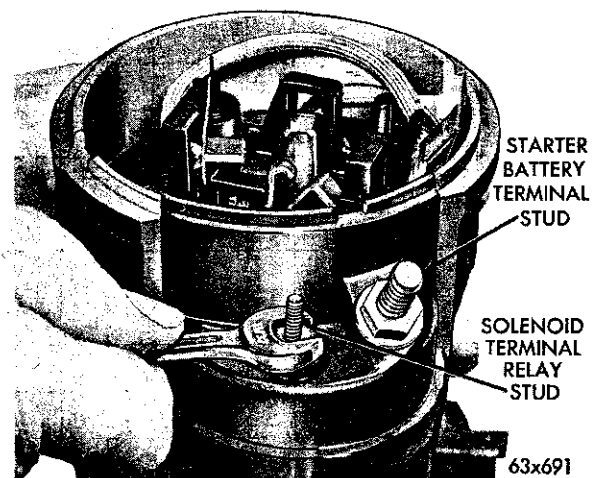

Fig. 6—Removing the Solenoid Terminal Nut
(10) Remove nut ($1\frac{1}{2}$ wrench), steel washer and insulating washer from the solenoid terminal (Fig. 6).
(11) Straighten the solenoid wire and remove the brush holder plate with brushes as an assembly.
(12) Remove the ground screw from the starter gear housing.